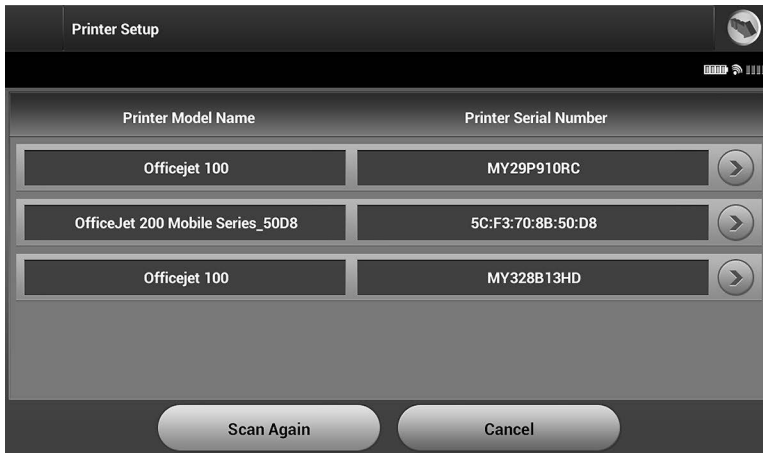

Figure 5: Printer Setup screen
2. Select Printer Setup on the Programmer Settings screen. The Printer Setup screen (Figure 5) may appear with a previously configured printer displayed as the default printer. If a default printer has not already been selected and configured, the screen will be empty and the Programmer will scan the area to locate wireless printers. A Scan Progress Bar will appear informing the user that the Programmer is currently scanning for printers.